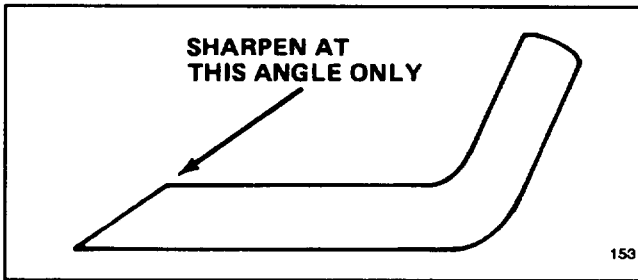

Figure 18
6. **SHARPENING BLADE**—Using a file, sharpen top side of blade (side facing mower housing) and maintain original cutting angle (Fig. 18). The blade will remain balanced if the same amount of material is removed from both cutting edges.